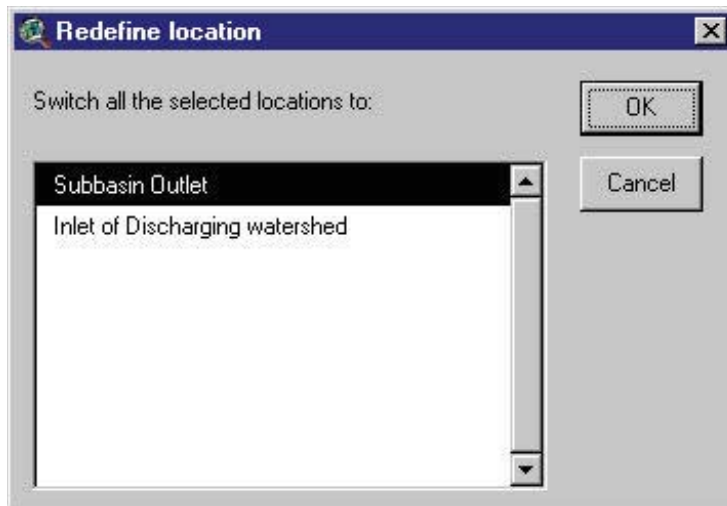

Figure 5.41
2. The *Watershed Delineation* dialog will be minimized. Move the cursor to the desired location(s) and left click. Hold down the left mouse button, and draw a box around the point(s) you wish to redefine. Release the left mouse button. A prompt box will open (Figure 5.41). Click the **Cancel** button to exit.